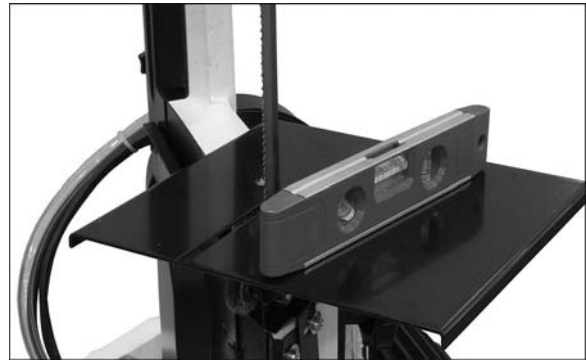

Figure 7
7. Place a level on vertical cutting plate (Figure 7).